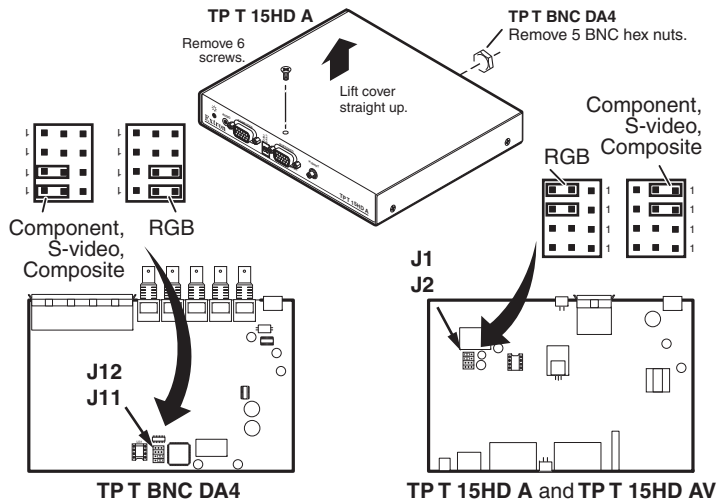

Figure 2-1 — Video jumper configuration
1. Remove the two screws on each side and the screw on top of the cover (figure 2-1).
4. **TP T 15HD A and TP T 15HD AV:** Locate J1 and J2 on the printed circuit board. See figure 2-1.
TP T BNC DA4: Locate J11 and J12 on the printed circuit board. See figure 2-1.